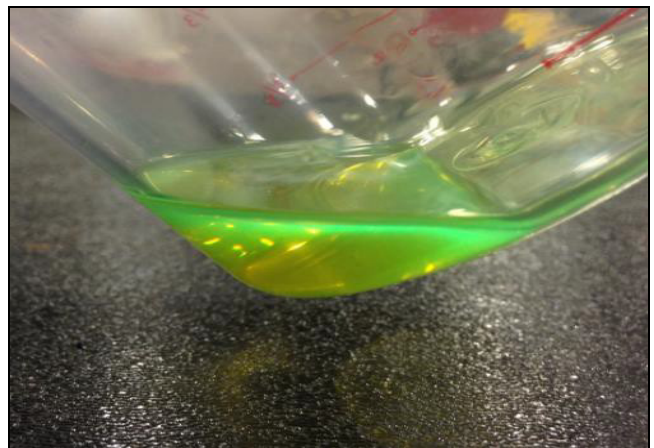

Figure 4
2. Is the refrigerant oil green as shown in Figure 4?